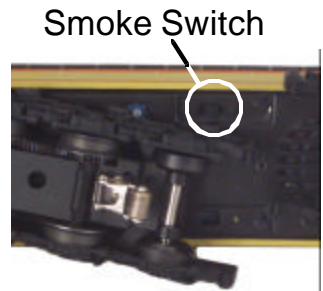

Figure 5. Smoke Unit ON/OFF Switch
3. If you choose not to prime the unit with fluid, turn the smoke unit switch located under the engine to the OFF position (see Fig. 5 on pg. 10). **Running the engine without a primed smoke unit may cause damage.** See the “ProtoSmoke Unit Operation” section of this book for more information on smoke unit maintenance.
If you choose not to add the fluid (or have already added the fluid but choose to run smoke-free), turn off the smoke unit switch located under the engine (see Fig. 5).